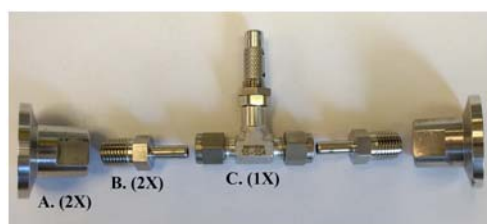

Figure 5-17 Metering Valve Assembly
1. Assemble a fine metering valve, as described in Figure 5-17 and follow the assembly notes.